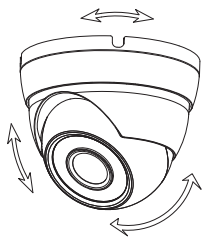

Figure 3-3
- Step 1** Find the mounting template sticker from the accessory pack and stick it to the mounting surface ①.
- Step 2** Drill screw holes (and the cable outlet hole if it needs to go through the mounting surface) on the mounting surface as indicated on the mounting template, then insert expansion bolts ② from the accessory pack in the screw holes.
- For model A, hold the pedestal ③ tightly and keep the device ⑤ upward, rotate the fixing ring ⑦ counterclockwise until you can detach it from above, and then take off the pedestal ③.
- For model B and model C, loosen the locking screw ⑨ with the supplied wrench ⑧ and take the pedestal ③ off.
- Step 4** Adjust the location of the pedestal ③ according to cable outlet requirement (top out or side out), then pull the cable out through mounting surface or the side wire tray. Align the screw holes on the pedestal ③ to those on the mounting surface, then put in and fasten the supplied self-tapping screws ④ to attach the device ⑤ to the mounting surface.
- For model A, put the fixing ring ⑦ back to hold the enclosure ⑥, leave some spaces enough for you to adjust the device ⑤. Aim the lens to the ideal angle (see Figure 3-3) and fasten the fixing ring ⑦.